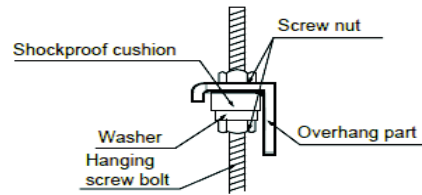

Fig. 9 — Secure the Unit
5. Secure the unit in position with lock nuts and washers on both sides of the mounting bracket. Ensure the threaded rod does not extend more than 2 in. below the mounting brackets (see Fig. 9).